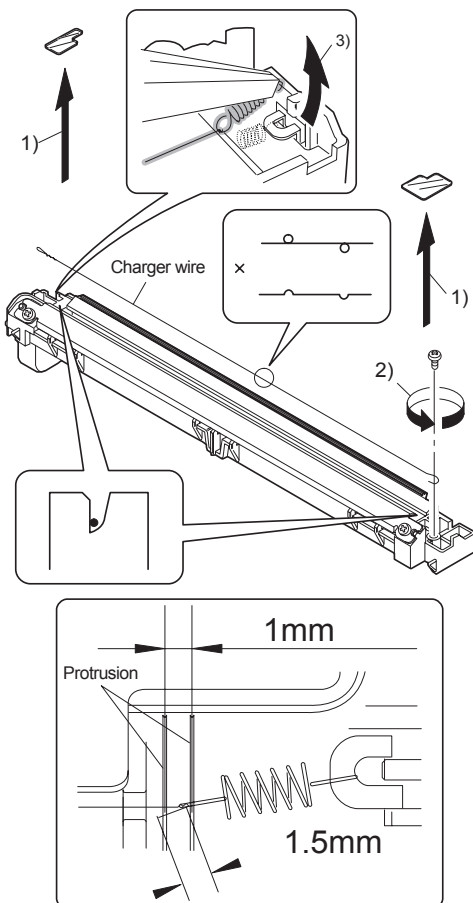

Fig.1
- 3) Install a new charger wire by reversing the procedures (1) and (2). At that time, be careful of the following items.
- The rest of the charger wire must be within 1.5mm. Refer to Fig.1